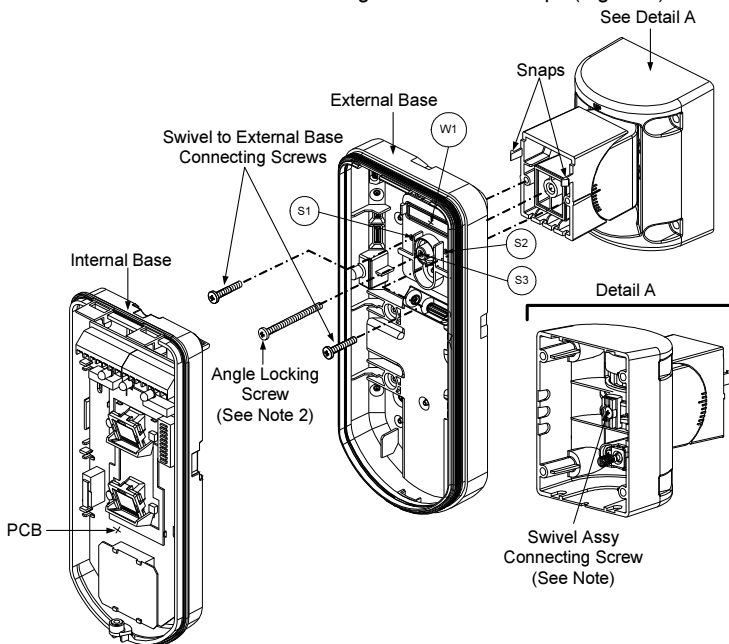

Figure 8
8. Connect the external base to the swivel using the dedicated snaps (Figure 8).
9. Secure external base to swivel with two screws fastened to knockouts S1 and S2 (Figure 8).
10. Insert the supplied angle locking screw from the external base through the angle locking screw knockout S3 on the external base to the standard swivel (Figure 8).
When marks on the two movable parts are aligned (Figure 8), the Standard Swivel is in 0° vertical /horizontal position. Each click from this position represents shifting of 5° in vertical / horizontal position.